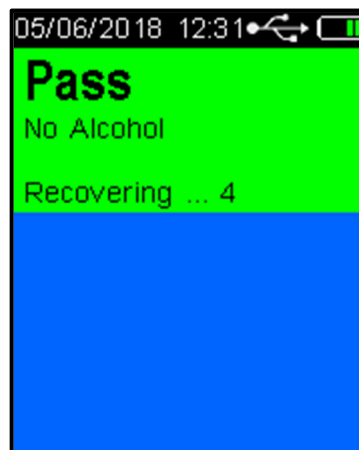

Figure 19 - Pass No Alcohol Message
- If a *Pass No Alcohol* reading is displayed the device has indicated that no alcohol was detected in the near vicinity of subject's exhaled breath. When the Recovering period has ended the device is ready for the next Passive standard breath test (Refer to Figure 19).